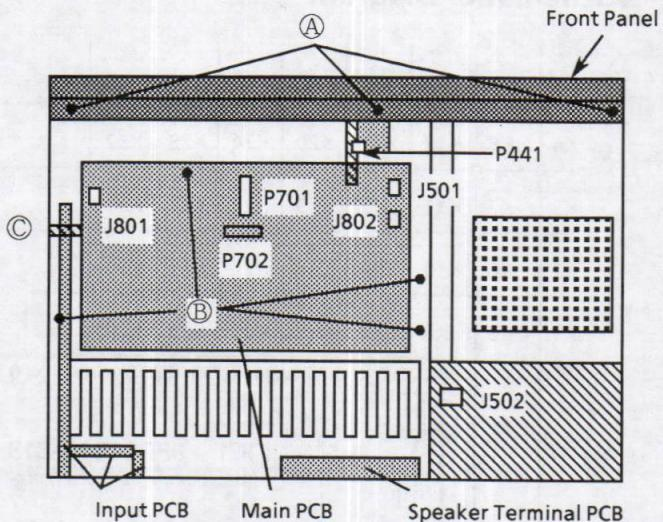
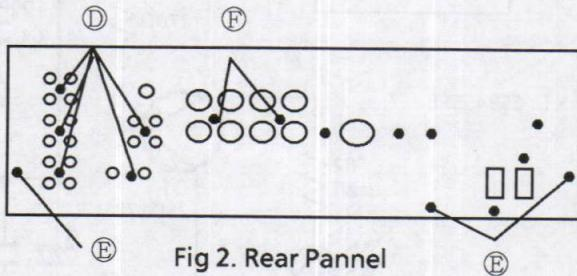

Fig 1. Top View
Fig 2. Rear Panel
- 1) Remove the 3 rivets Ⓐ fastening top of the Front Panel (Fig.1), and the 5 screws ④ fastening bottom of the Front Panel (Fig.3).
- 2) Disconnect the connector P441 of Master Volume PCB (Fig.1), then remove the MASTER VOLUME knob.
- 1) Remove the 5 screws ⑤ fastening the Input Terminal (Fig.2) and release the rebet ⑥ fastening the Input PCB (Fig.1).
- 2) Remove the 2 screws ⑦ fastening the Bottom Cover (Fig.3) and remove the 3 screws ⑧ fastening the Rear Panel (Fig.2).
- 3) Remove the connector J801 (Fig.1).
- 1) Remove the 2 screws ⑨ fastening the Speakers Terminal (Fig.2).
- 2) Remove the 5 screws ⑩ fastening the Input Terminal and remove the 3 screws ⑪ fastening the Rear Panel (Fig.2).
- 2) Remove the Input PCB. (Refer to the procedure of item 4.)
- 3) Remove the 4 screws ⑬ (Fig.1).
- 4) Remove the Speakers Terminal PCB. (Refer to the procedure of item 5.)
- 5) Remove the 6 connectors J801, J802, J501, J502, P701 and P702 (Fig.1).